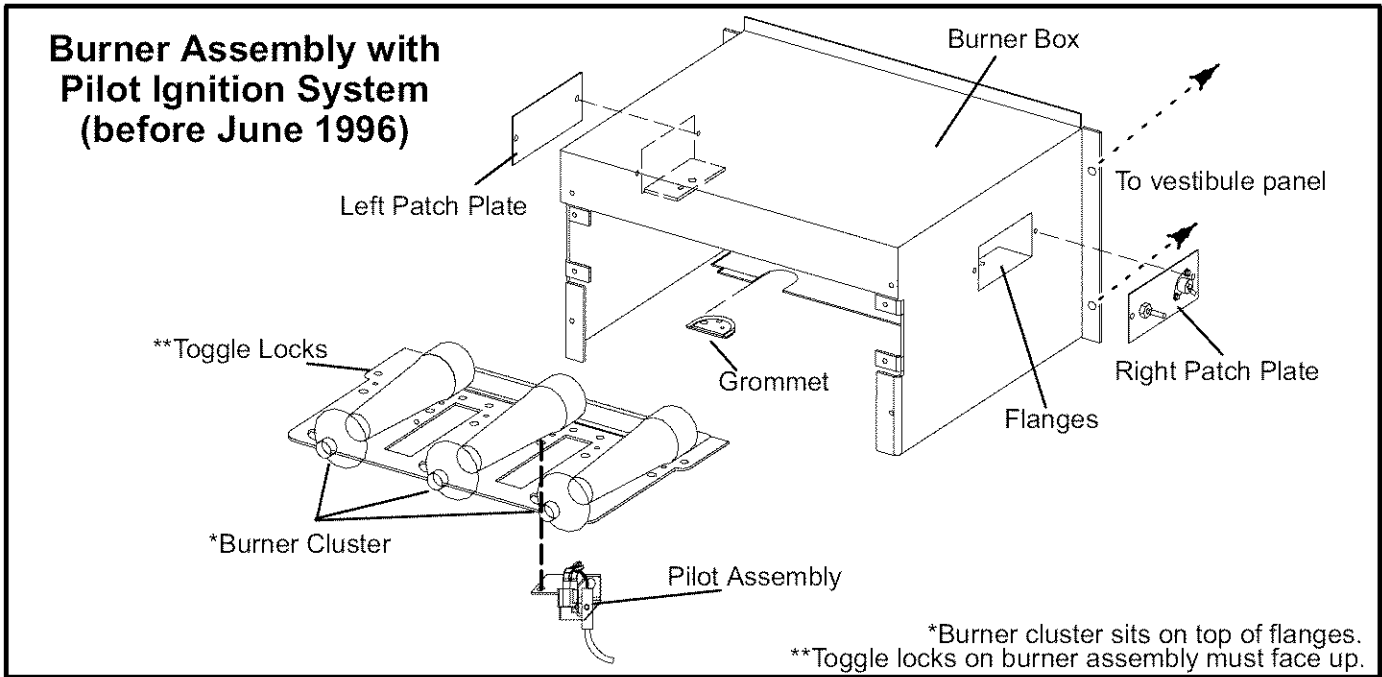

FIGURE 1
- 32 - **Furnaces with intermittent pilot ignition** - Unscrew and remove original pilot assembly from the old burner cluster along with "D" wire grommet. Reattach the pilot assembly to new cluster in the same location. When you install the burner cluster, the raised toggle locks must be pointing up. Install the pilot assembly on the underside of the burner cluster, between the two rightmost burners. See figure 1.
A new patch plate assembly is provided with this kit, complete with rollout switch and pressure barb. Attach the new right side patch plate into the new burner box, using the original screws. Locate the plate so that the rollout switch faces the vest panel (see figure 1). Attach the left side patch plate into the new burner box using the original screws.